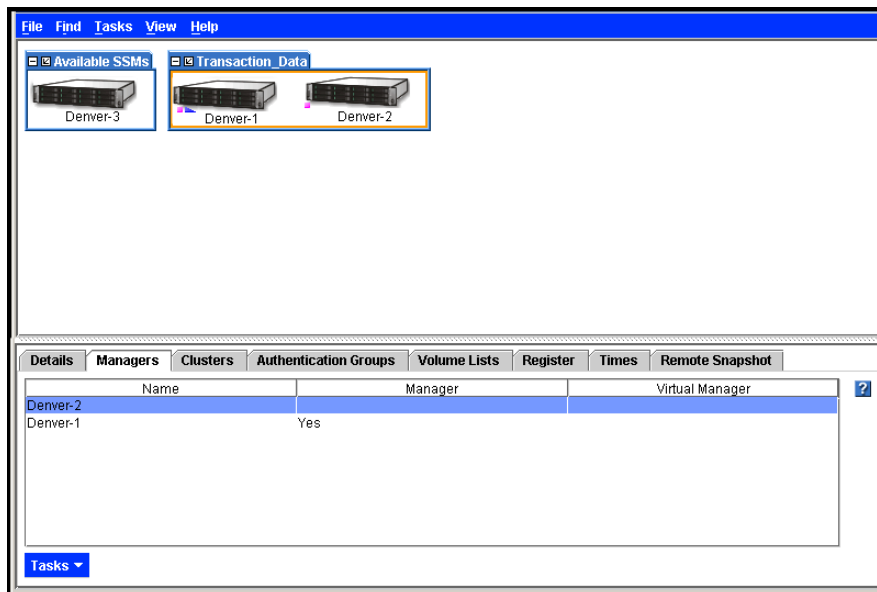

Figure 143. Starting a Manager
2. Click the Managers tab in the Tab View. The Managers tab displays, shown in Figure 143.